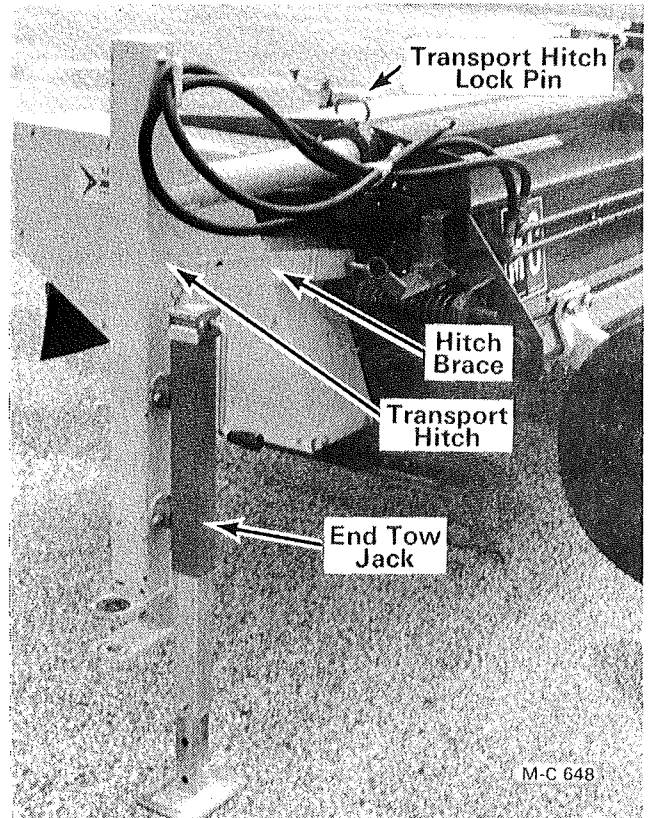

Figure 15D
8. Connect the Shredder hydraulic hoses to the tractor. Lower the transport hitch with the jack. Retract the jack all the way, see Figure 15D.
10. Disconnect the transport hitch brace from the Shredder. Remove the clip from the end of the transport hitch lock pin and pull the pin out, see Figure 15D. Store the lock pin in the